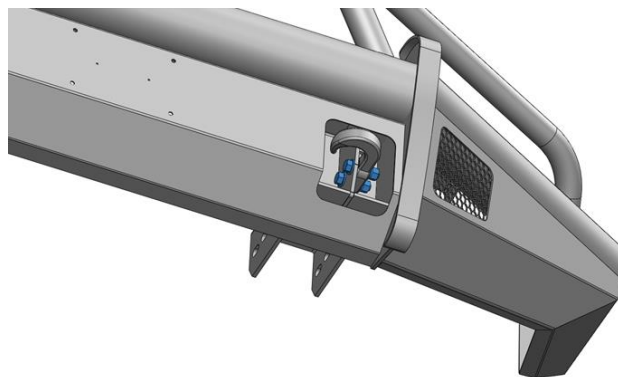

Figure 9
10. Install the Supplied Tow Hooks in the orientation shown below (Open to the inside and on the outside of the brace) using the provided 1/2"-13 bolts, washers, and nuts. **(Figure 9)**